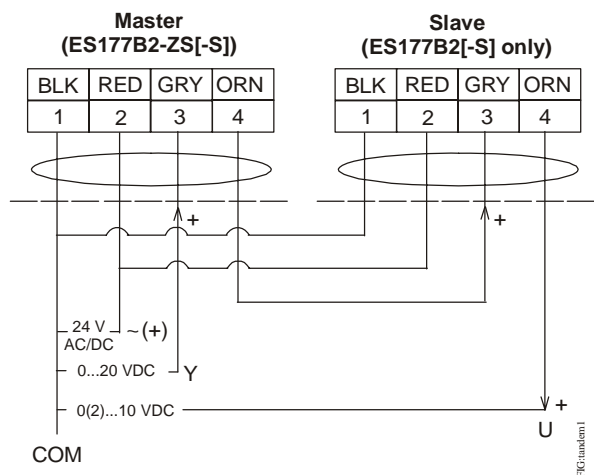
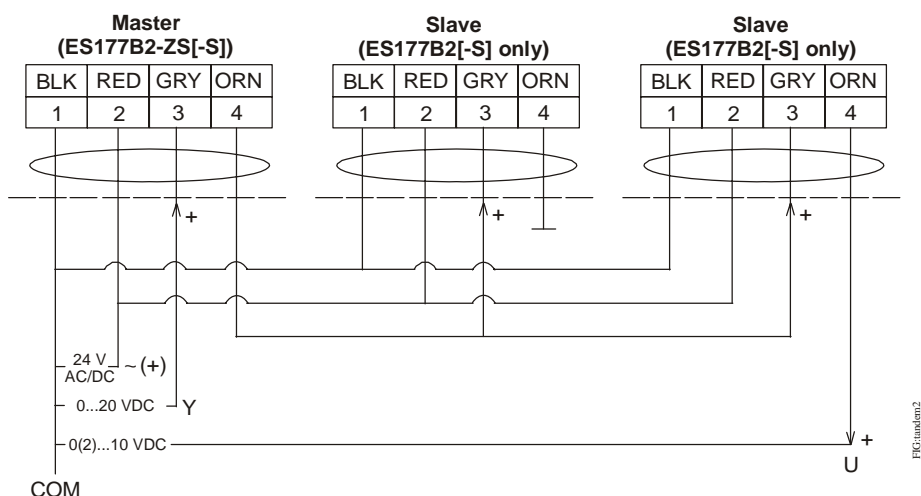

Figure 15: Tandem Connection
Figure 16: Tandem Connection - Three Actuators
The tandem configuration (Figure 15 and Figure 16) provides twice (with two actuators) or triple (with three actuators) the running and spring return torque of a single actuator (354 lb-in [40 N·m], 531 lb-in [60 N·m]). One ES177B2(-S) Series actuator may be mounted in tandem with one ES177B2-ZS(-S) Series model using the M9000-158 Tandem Mounting Kit. To mount a third actuator, user-configured bracketing is required.
- One ES177B2-ZS(-S) Series actuator and one or two ES177B2(-S) Series actuators may be operated in tandem on the same shaft. If mounting two actuators, see Figure 15; for three actuators, see Figure 16.